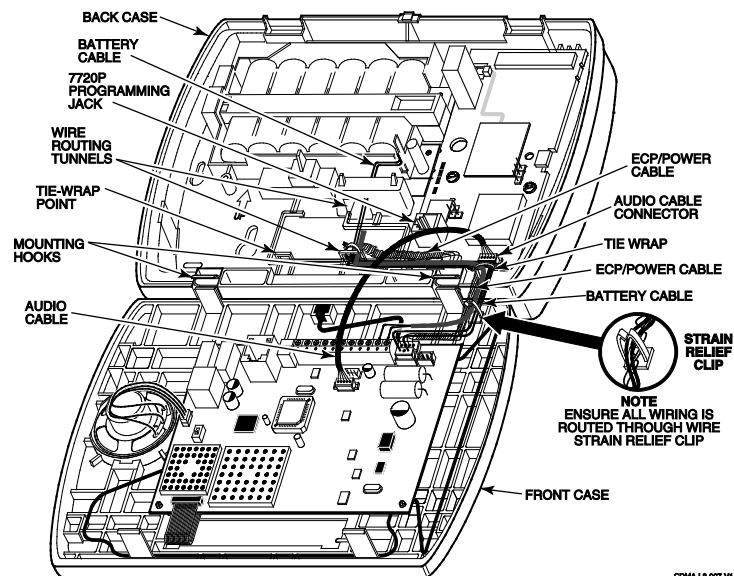

Figure 4 – Long (top diagram) and short (bottom diagram) cable routing options
6. Connect the provided ECP/power cable between the module and the PC board and route the cable as shown in Figure 4. This cable provides DC power and ground for the module and ECP connections.
For best radio performance, the wires, ECP/power cable, battery and shielded audio cables must be routed as shown in Figure 4.
7. Make the wiring connections and install the control in accordance with the appropriate Installation Instructions. Twist the ECP/power and battery cables and ensure that they are routed through the routing tunnels and/or the strain relief clip as shown in Figure 4.
10. Connect the provided shielded audio cable between the module and the PC board and route the cable as shown in Figure 4.